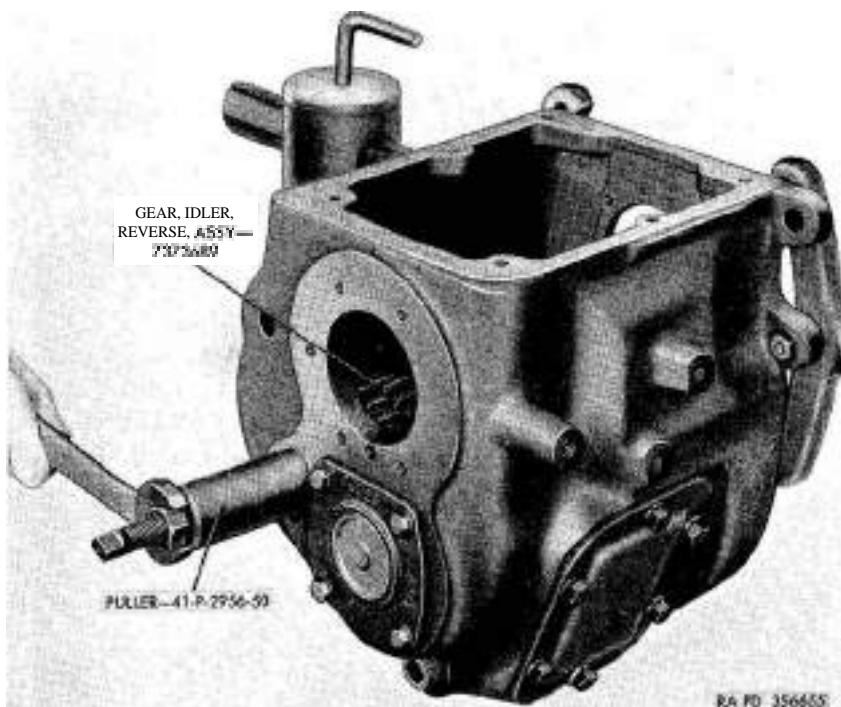

Figure 104. Removing reverse idler gear shaft.
- (1) Remove $\frac{1}{8}$ -16NC x $\frac{3}{4}$ cap screws (WW), lock $\frac{3}{4}$ -inch lock washer (XX), and reverse idler gear shaft locking plate (YY) from transmission case.
- (2) Engage screw shaft lug of puller 41—P-2956-50 (fig. 104) with slot in reverse idler gear shaft. Assemble puller hous-